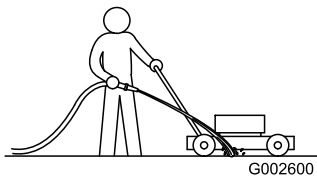

Figure 29
1. With the engine running on a flat paved surface, spray a stream of water in front of the **right** rear wheel (Figure 29).